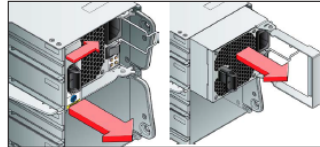

Figure 4: Removing a Power Cooling Module
- Grasp the latch and the side of the PCM handle between thumb and forefinger, squeeze together and open the handle to cam the PCM out of the enclosure (see Figure 4).